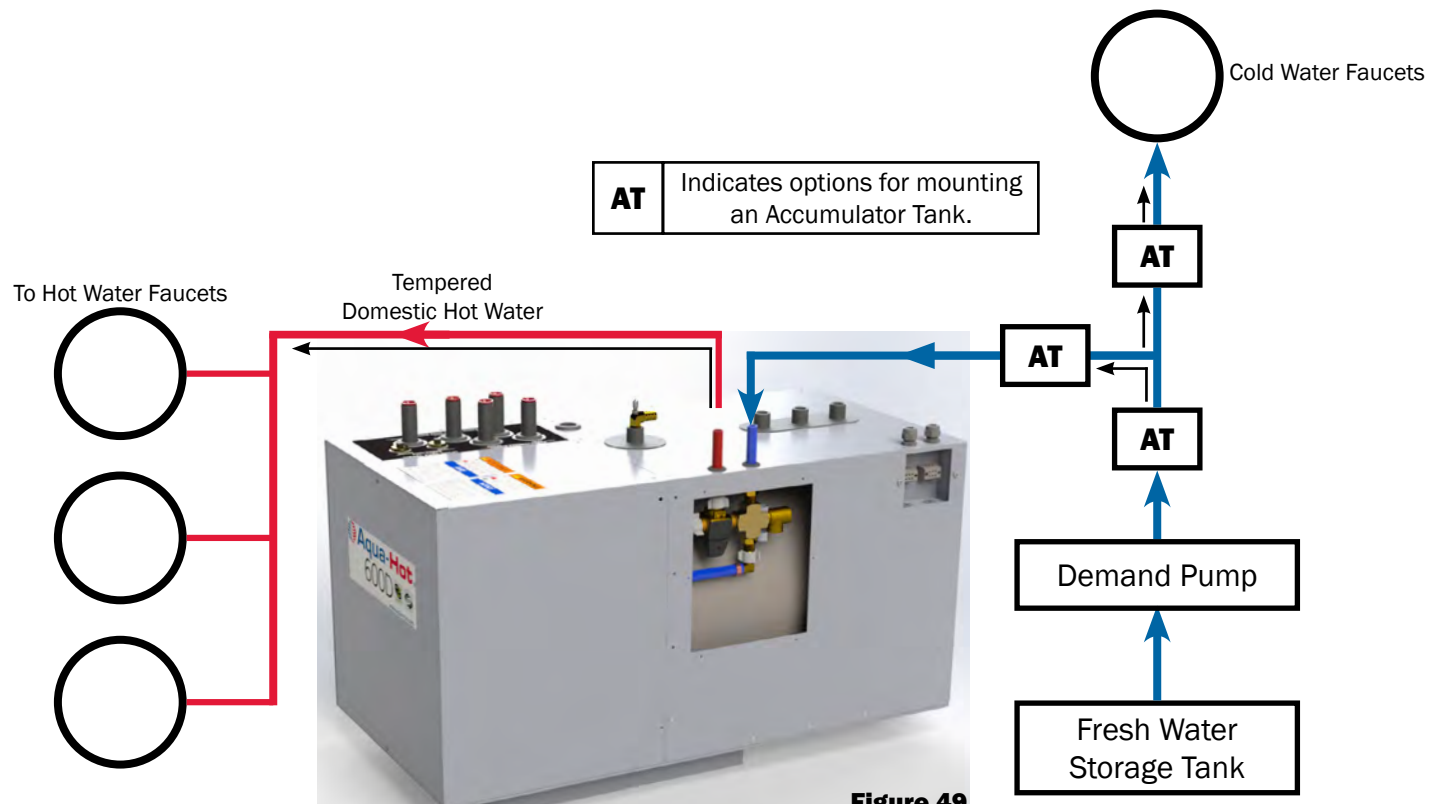

Figure 49
- Plumb the domestic water system according to Figure 49.
Please note it may be necessary to utilize an accumulator tank within the domestic water system. Reference Figure 49. Although the 600D is equipped with a pressure relief valve, the use of an accumulator tank will help prevent excessive “weeping” of the valve. Manufactured pressure relief valves will cause the “seat” in the valve to deteriorate, which can cause the valve to fail permanently. Be sure to reference the RVIA’s (Recreational Vehicle Industry Association) technical publication titled “Recreational Vehicle Plumbing Systems”. To obtain a copy of this publication, contact RIVE at (730) 620-6003 or visit them online at www.rvia.org.